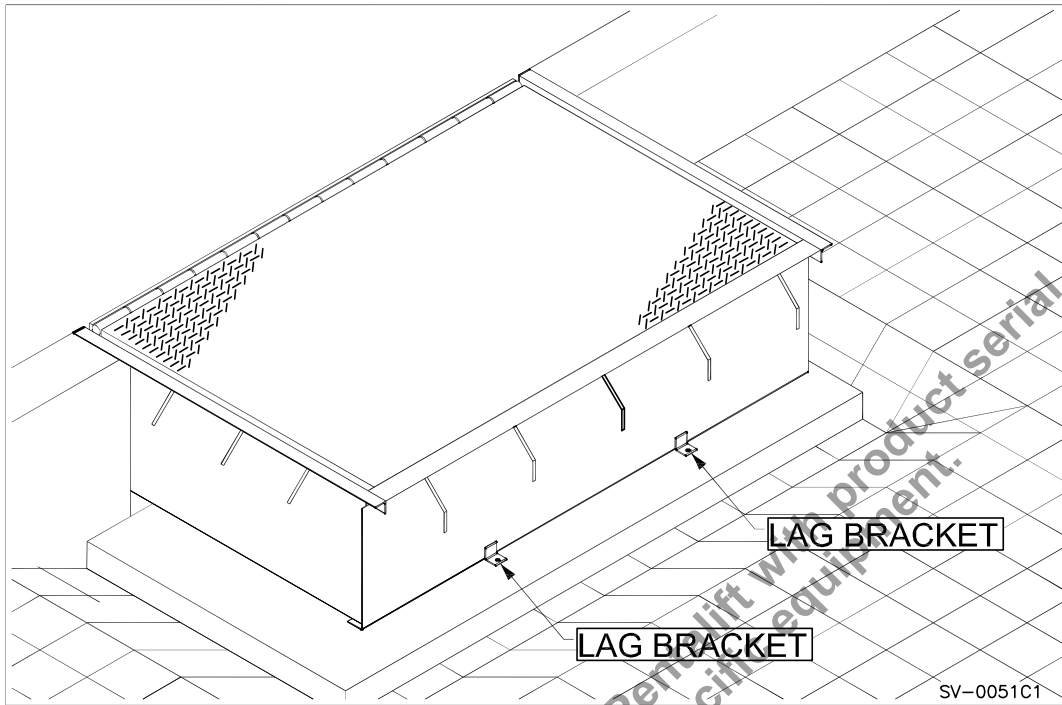

Figure 32: Dock Leveler in Position
2. ___ Position the dock leveler into the foundation cutout (see “Figure 32: Dock Leveler in Position” on page 25).
5. ___ Securely brace the dock leveler to prevent any movement or “floating” during the pouring of the concrete. Use lag bolts in the provided lagging brackets to assist in securing the dock leveler (see “Figure 32: Dock Leveler in Position” on page 25). Note that these brackets are intended to assist in bracing the dock leveler and that consideration and use of additional supporting means may be required.
8. ___ Pour concrete to finished floor level and flush with the curb angle on all three (3) sides in **two stages**.